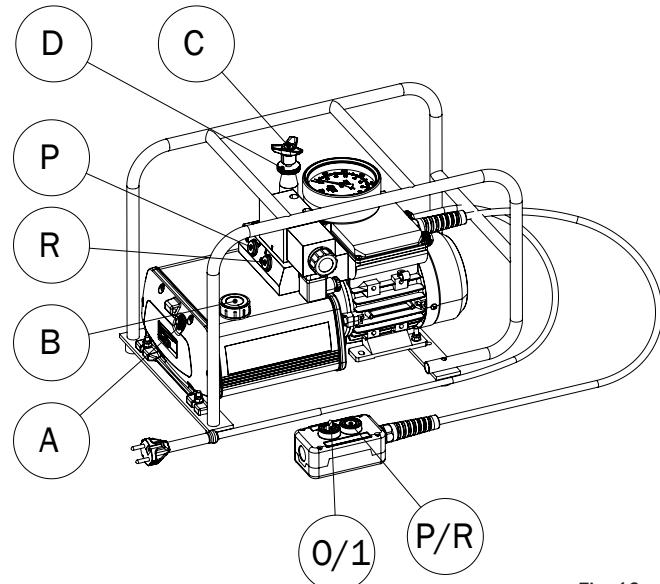

Fig. 10
- Unscrew the oil filler plug (Fig. 10, item B).
- Fill the oil reservoir through the filler hole until the oil level reach the centre of the level glass plug (fig. 10 pos. A).
To start the work cycle, turn the switch on the pendant control clockwise to position 1 (fig 10, pos. 0/1). Note! Because the remote control's built-in PLC needs a short time to start up, it takes about 4 seconds before pumping can begin after the switch is turned to position 1.
Push the green push button on the pendant control (fig 10, pos. P/R) to activate the tool in the positive direction. When releasing the button, the pump will automatically change the direction of oil flow in the pump and activate the retracting direction of the tool. If the push button is not pressed again, a built in time relay switch will turn off the electric motor after 10 seconds.
Adjustment of maximum pressure is done by turning the adjustment screw (fig. 10, pos. C).
NOTE! Before adjusting the pressure, unscrew the locking ring (fig. 10, pos D) by turning it counterclockwise until there are sufficient spacing between the locking ring and the adjustment valve housing.